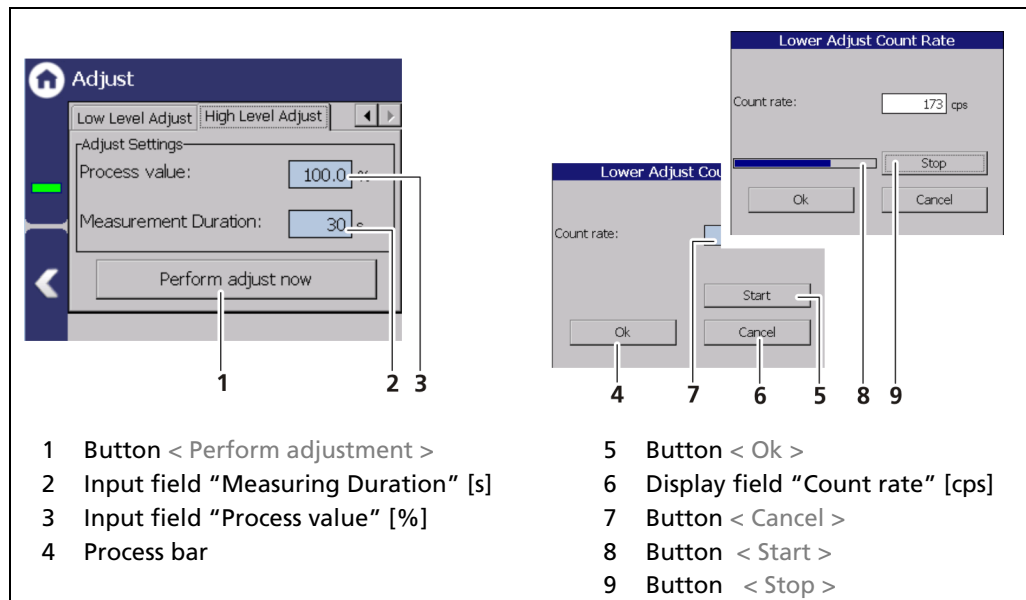

Fig. 88 Lower adjustment
1. Click on the field Process value (Fig. 88, item 3) to open the input field.
3. Click on the "Read-In-Time" field (Fig. 88, item 2) and specify the duration of measurement in seconds. The higher you set the measurement time, the
4. Click on the button < Perform adjust now > (Fig. 88, item 1).
5. Click on the button < Start > (Fig. 88, item 5).